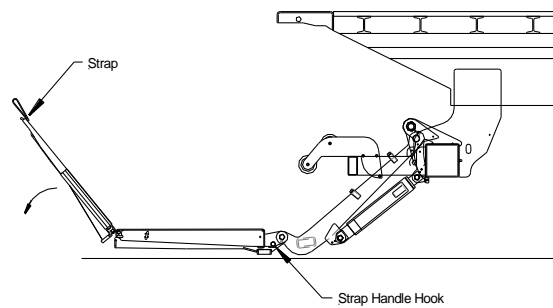

**Fig.7**
3. Steel and aluminum platform tips have a safety strap installed that secure the tip to main, **Fig.7**. The strap is used to manually to fold and unfold the platform tip before and after operating the liftgate.